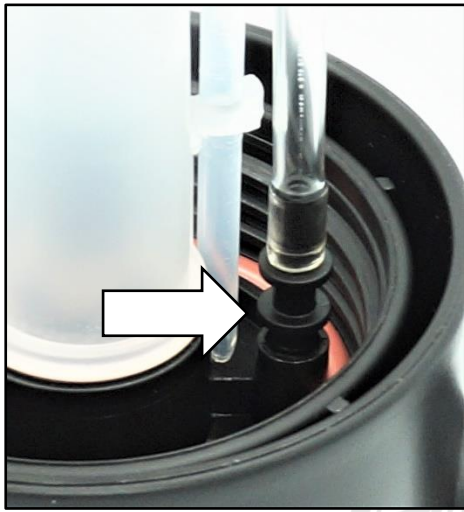

Figure 1
1. Press red Pressure Relief Valve (8) to relieve pressure inside Canister (14)
2. Separate Foamer Sprayer Housing (7) from Canister (14)
3. Remove **Foam** Liquid Pickup Tube (Black) (13) by pulling the fitting as indicated by the arrow in *Figure 1*
4. Store **Foam** Liquid Pickup Tube (Black) (13) in a safe place for reuse